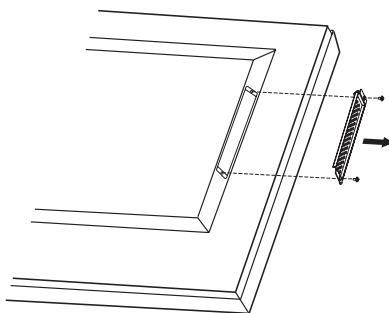

Figure 1
2. Remove the attached slot cover by unscrewing the installed screws (**Figure 1**).